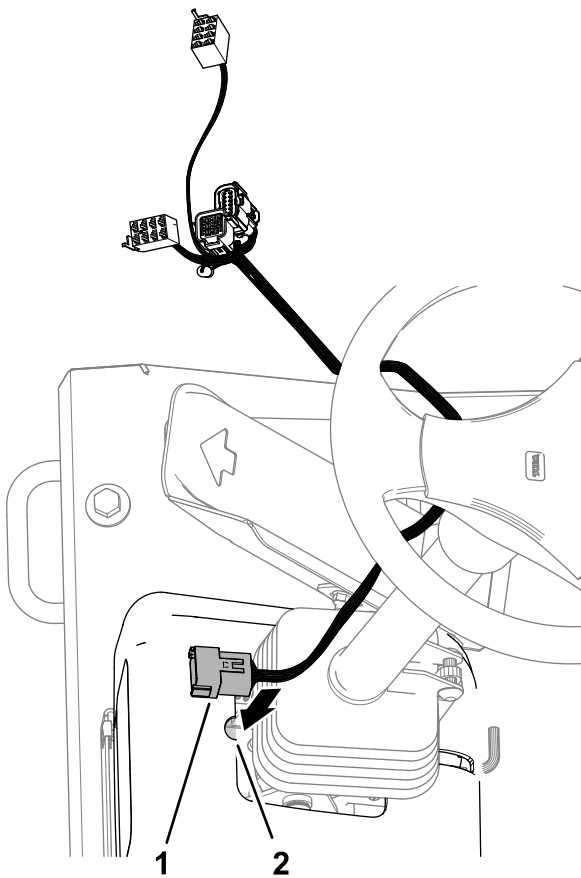

Figure 21
4. Align the 12-pin connector end of the control harness through notch in the steering cover (Figure 21).